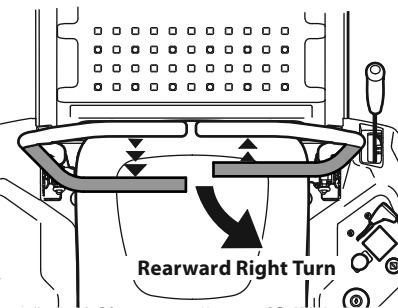

Figure 24
2. To turn to the right while traveling in reverse, move the right drive control lever forward of the left drive control lever. See Figure 24.